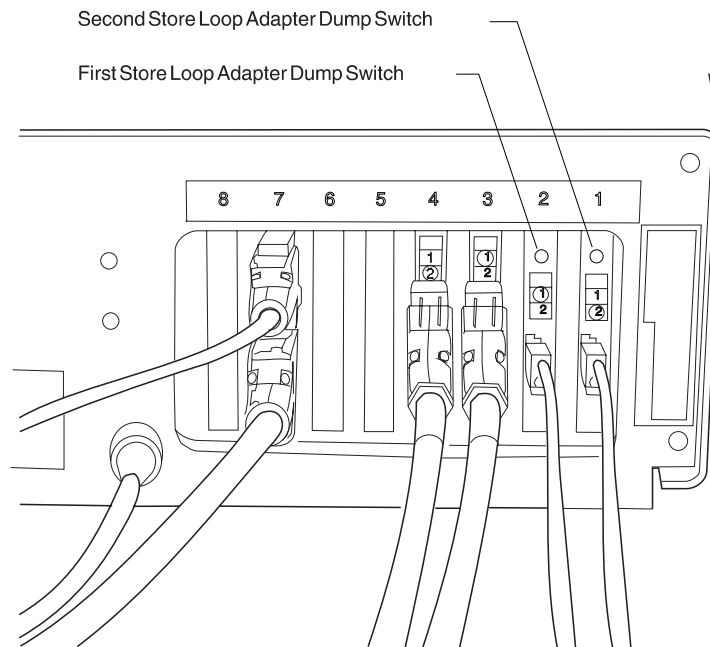

Figure 1. Location of store controller dump switch
- Press either dump switch shown in Figure 1 on page 366. They both do the same thing.
Note: Figure 1 on page 366 shows the Store Loop Adapters installed in the Personal System/2 (PS/2®). The Store Loop Adapters can be installed in any expansion slot in the store controller. This figure shows them installed in slots 1 and 2.